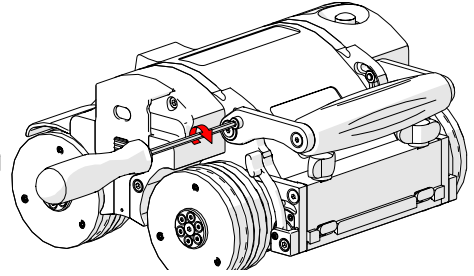

Fig. 97 - Tighten lock screws
3. Tighten the handle lock screws when complete (*Fig. 97*).